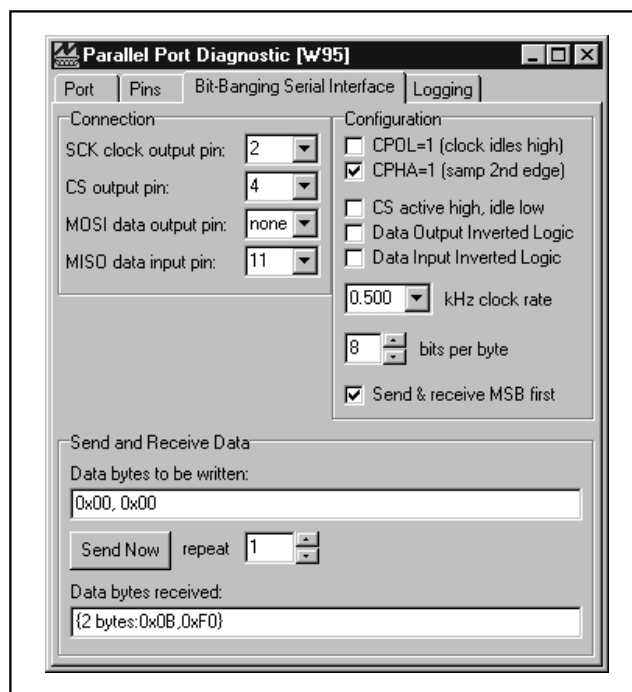

Figure 2. SPI Utility Showing the Settings to Communicate with the MAX6629 EV Kit
There are two methods for communicating with the MAX6629: through the user-interface panel or through the general-purpose SPI utility. This utility (Figure 2) configures SPI parameters such as clock polarity (CPOL), clock phase (CPHA), and chip-select (CS) polarity.